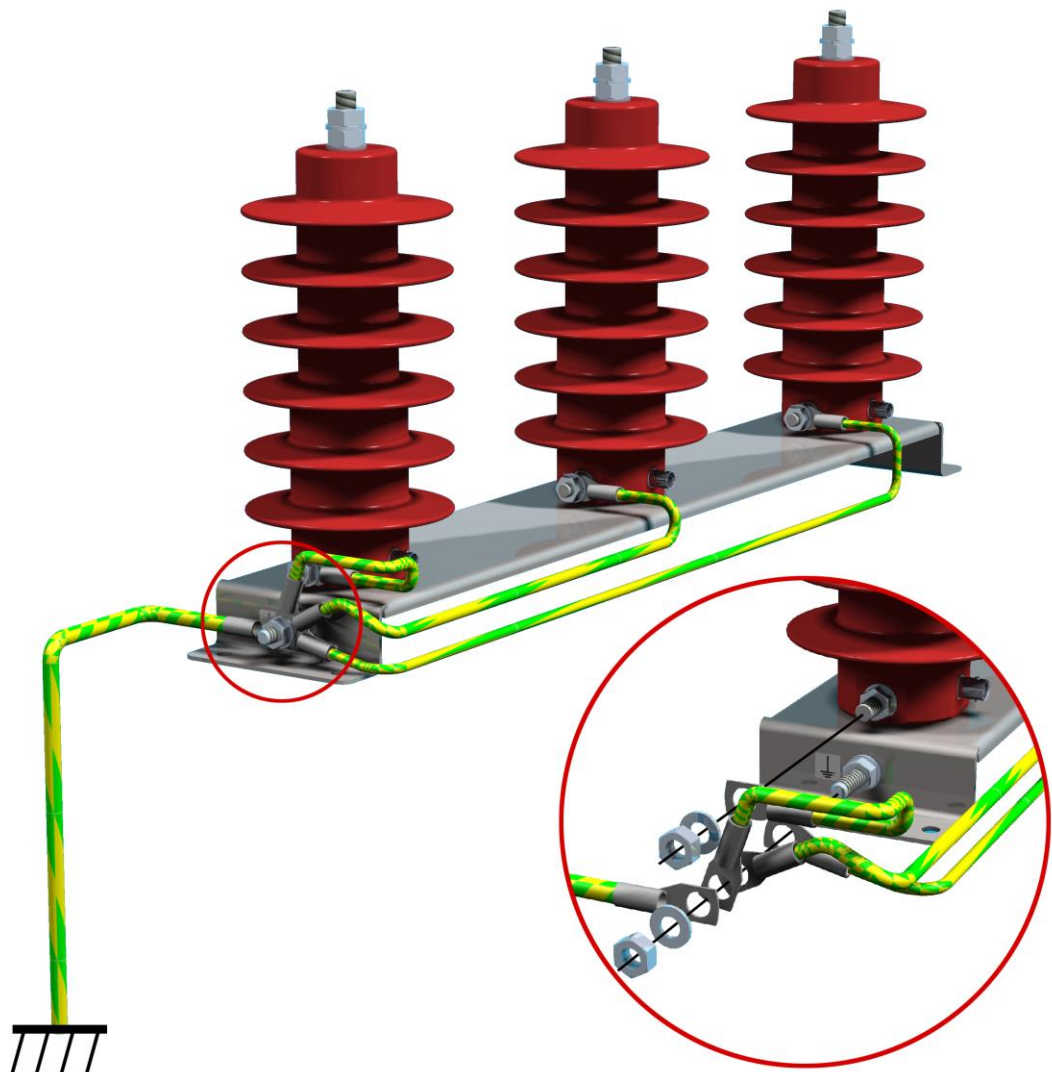

Figure 5 Wiring of grounding
**For great safety** the external M8 earth connection of each DRMT-1/10K sensor must be connected to the ground screw of the fitting, see example in Figure 5. Use cables of at least 16 mm2 of section.